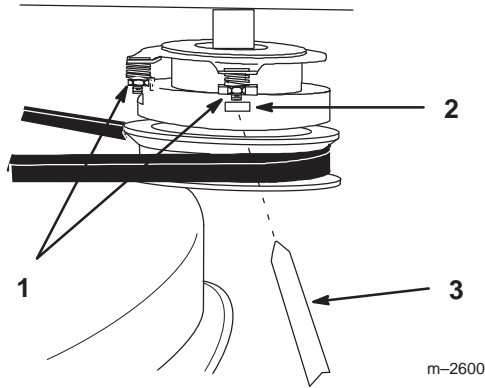

Figure 37
1. To adjust clutch, tighten or loosen lock nuts on flange studs (Fig. 37).
2. Check adjustment by inserting feeler gauge thru slots next to studs (Fig. 37).